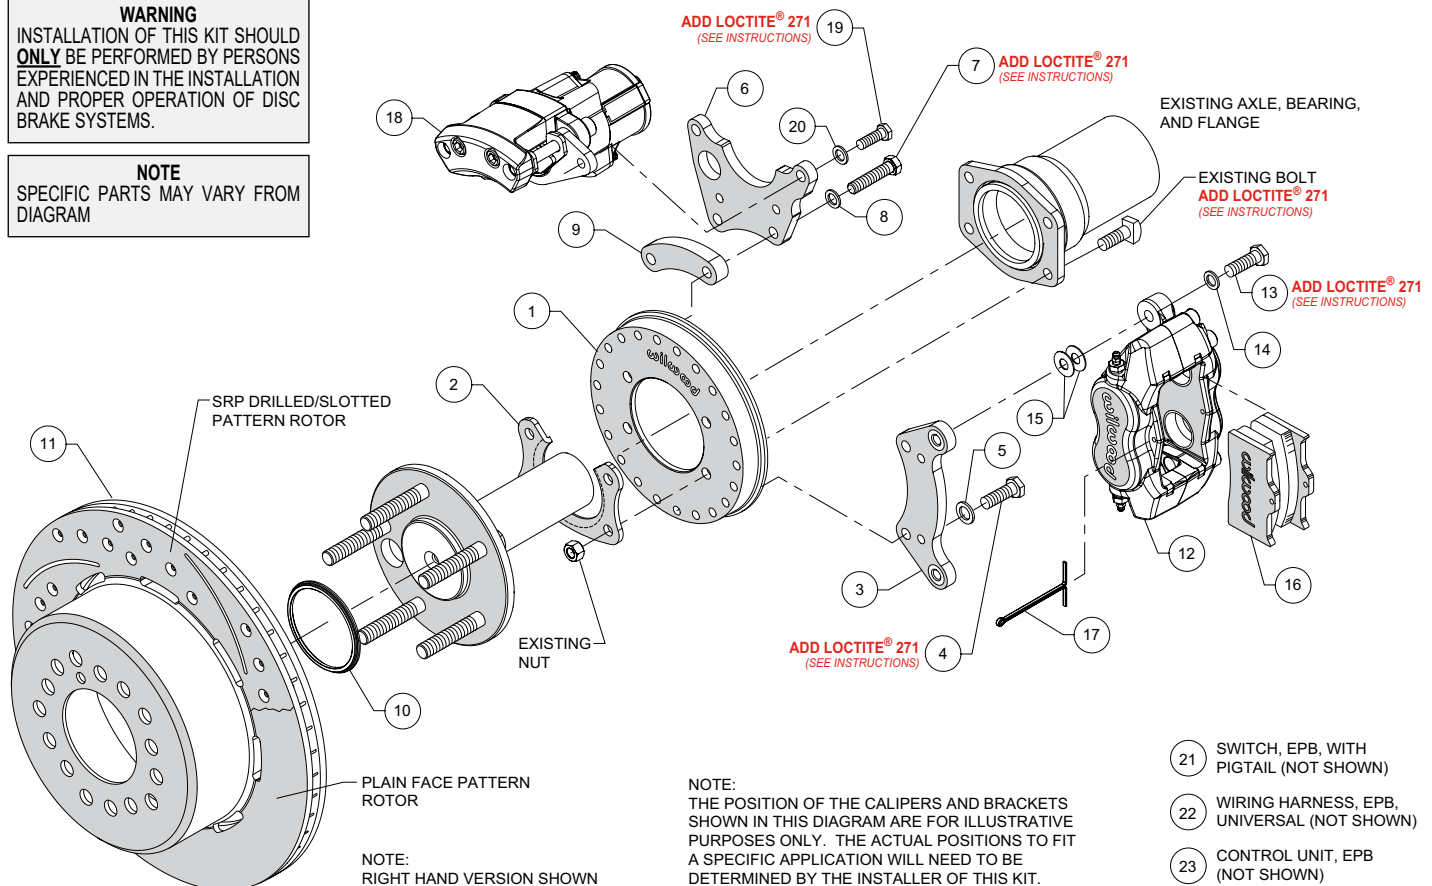
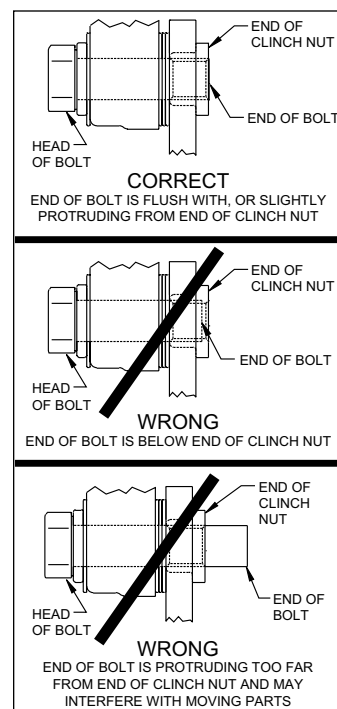

Figure 1. Typical Installation Configuration
Figure 5. Clinch Nut Engagement Diagram
NOTE: Numbers in parenthesis refer to the parts list and Figure 1 on the preceding pages.
CAUTION: All mounting bolts must fully engage clinch nuts. Be sure to check that all bolts are either flush or protruding through flanged side of clinch nut after shimming, Figure 5.
- Orient the backing plate (1) as shown in Figure 1 and Photo 1, and slide it onto the axle housing flange. Ensure the backing plate fits flush against the axle housing flange. Reinstall the axle into the axle housing.
- Install the bearing retainer (2) with the opening pointing upward and the lip facing inward (toward the bearing), as shown in Figures 1 and 4, and Photo 2. Secure retainer and backing plate to the axle housing flange using the Original Equipment Manufacturer (OEM) bolts and nuts, Figure 1 and Photo 3. Apply red *Loctite*® 271 to the OEM bolt threads and torque to OEM specifications.
- Start by determining the best location for the service caliper (12). This caliper is usually mounted in the 3:00 or 9:00 o'clock position, but may be rotated up or down approximately 45 degrees and still allow for proper bleeding, Photo 4. Orient the service caliper bracket (3) as shown in Figure 1 and Photo 5, and install to the backing plate (1) in the desired location using bolts (4) and washers (5). Temporarily tighten bolts. Next, mount the service caliper to the bracket using bolts (13) and washers (14). Temporarily tighten bolts. Check that the caliper (including inlet fitting and hose) has sufficient clearance to all surrounding components through the full suspension travel. Relocate the caliper/bracket on the backing plate as needed to ensure proper clearance is achieved.
- Determine the best location for the EPB caliper (18). **NOTE:** *The EPB caliper motor extends farther inboard than the service caliper and therefore needs additional consideration when determining a mounting location with sufficient clearance.* In the example application shown in Photo 6, the EPB caliper has sufficient inboard clearance to the leaf spring. However, if the EPB caliper were mounted closer to the 12:00 o'clock position, the inner body of the vehicle would hit the caliper during full compression of the suspension.
•Orient the EPB caliper bracket (6) as shown in Figure 1 and Photo 7, and install to the backing plate (1) in the desired location using bolts (7), washers (8), and spacer (9). Temporarily tighten bolts. **NOTE:** The EPB bracket is reversible. In one direction the bracket will position the EPB caliper closer to the service caliper, and vice versa if reversing the bracket. Next, mount the EPB caliper (18) to the bracket using bolts (19) and washers (20). Temporarily tighten bolts. **NOTE:** EPB calipers are Left and Right handed, however they can be used on either side of the vehicle to best suit your specific application. Check that the EPB caliper (including wiring harness connector) has sufficient clearance to all surrounding components through the full suspension travel. Relocate the EPB caliper/bracket on the backing plate as needed to ensure proper clearance is achieved.
•Once the caliper positions have been determined, remove both the service (12) and EPB (18) calipers, leaving both brackets in place on the backing plate. For both brackets, remove the bolts one at a time, apply red *Loctite*® 271 to the threads, and torque to 35 ft-lb.
•Slide the rotor registration adapter (10) onto the register on the axle flange with the smaller O.D. facing toward the rotor/hat (11), Photo 8. Align the correct hole pattern in the rotor/hat with the stud pattern on the axle flange and slide into place, Figure 1. **NOTE:** The rotor/hat must fit flush against the axle flange or excessive rotor run out may result. Install three lug nuts (finger tight) to keep the rotor/hat assembly in place while continuing with the installation. **NOTE:** Some OEM and after market axles come with stud sizes larger than 0.50" diameter. Verify stud size and have a qualified machine shop drill the bolt circle of the hat/rotor to the correct stud size, if necessary.
•**NOTE:** Please reference the caution statement at the beginning of the assembly instructions. Remount the service caliper (12) onto the caliper mounting bracket (3) using bolts (13) and washers (14), as shown in Figure 1. Initially place two .035" thick shims (15) on each bolt between the caliper and the bracket, Photo 9. Temporarily tighten the mounting bolts and view the rotor (11) through the top opening of the caliper. The rotor should be centered in the caliper, Photo 10. If not, adjust by adding or subtracting shims (15) between the bracket (3) and the caliper (12). Always use the same amount of shims on each of the two mounting bolts. **NOTE:** The end of each bolt must be flush with or slightly protruding from the head of the clinch nut, as shown in Figure 5. If necessary place spare shims (15) between washer (14) and caliper mounting ear to achieve the proper clinch nut engagement. Once the caliper alignment and clinch nut engagement are correct, remove the bolts one at a time, apply red *Loctite*® 271 to bolt threads, and torque to 40 ft-lb.
•Install the disc brake pads (16) into the service caliper (12), with the friction material facing the rotor (11), Photo 11. Secure the pads in place using the cotter pin (17), Photo 12.
- Mount the EPB caliper (18) onto the caliper mounting bracket (6) using bolts (19) and washers (20), Figure 1. Apply red *Loctite*® 271 to bolt threads, and torque to 30 ft-lb.
- NOTE:** *The service caliper (12) in this brake kit utilizes a 1/8-27 NPT pipe thread inlet. OEM rubber brake hoses generally cannot be adapted to Wilwood calipers. The preferred method is to use steel adapter fittings at the caliper, either straight, 45 or 90 degree (use PTFE tape on pipe threads of adapter fitting for proper sealing to caliper) and enough steel braided line to allow for full suspension travel. Carefully route hoses to prevent contact with moving suspension, brake or wheel components. NOTE: Wilwood hose kits are designed for use in many different vehicle applications and it is the installer's responsibility to properly route and ensure adequate clearance and retention for brake hose components. Wilwood offers universal brake flex line hose kits, domestic (3/8-24 IF) chassis fittings, order:*